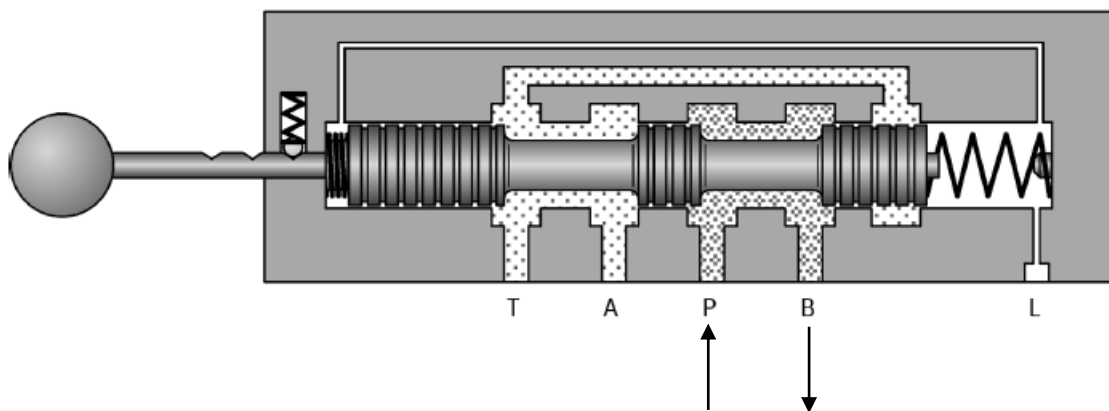
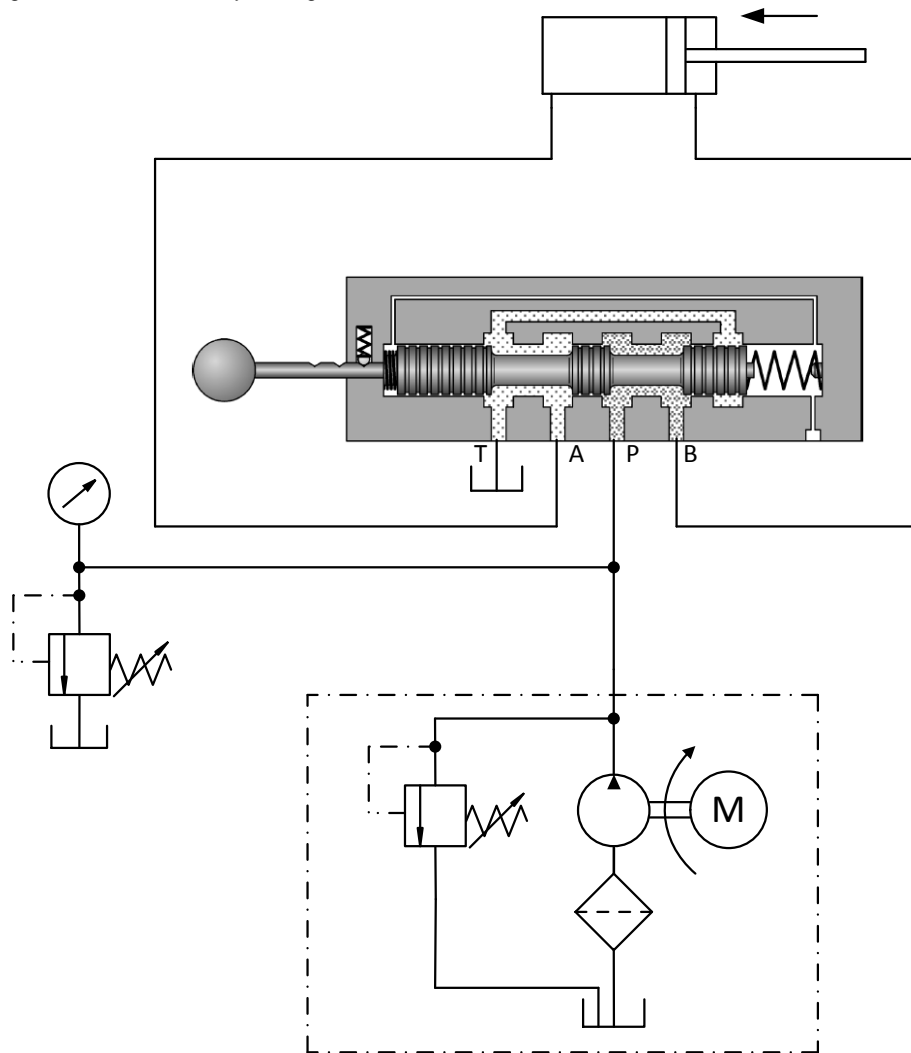

FIG 12.
FIG 13.
C. If the spool is moved into position “b”, the oil is directed to retract the piston rod of the cylinder. (Fig 12 and Fig 13 on the next page).